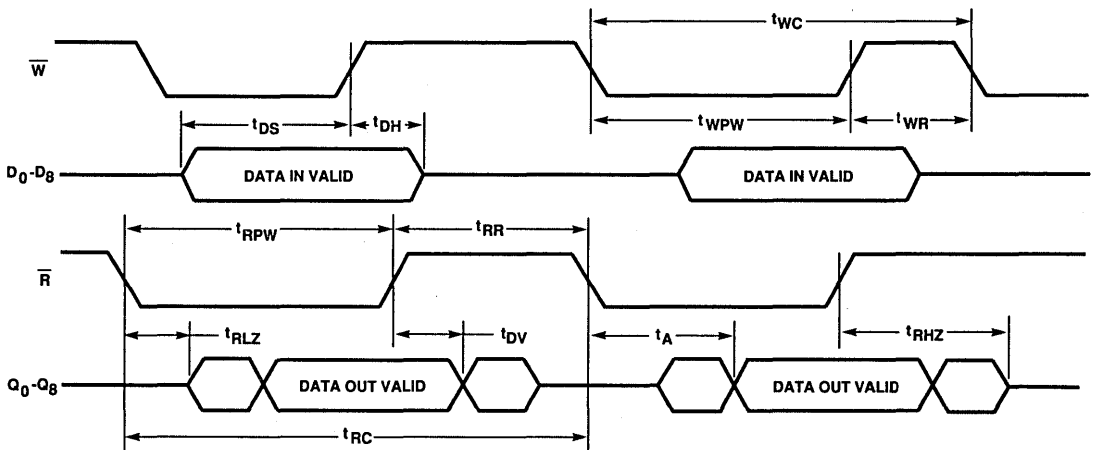

Figure 3. Asynchronous Write and Read Timing
The HIGH state of the Full Flag ( $\overline{FF}$ ) indicates that the FIFO is capable of accepting data. The falling edge of Write (W) initiates a write cycle. (See Figure 3.) Data appearing at inputs D0-D8  $t_{DS}$  prior to and  $t_{DH}$  after the rising edge of W will be stored sequentially in the FIFO.
The HIGH state of the Empty Flag ( $\overline{EF}$ ) indicates that the FIFO is ready to output data. The falling edge of Read (R) initiates a read cycle. (See Figure 3.) Valid data appears on the outputs Q0-Q8  $t_{A}$  after the falling edge of R, and remains until  $t_{OV}$  after the rising edge of R. Q0-Q8 return to a high-impedance state when a valid read is not in progress.